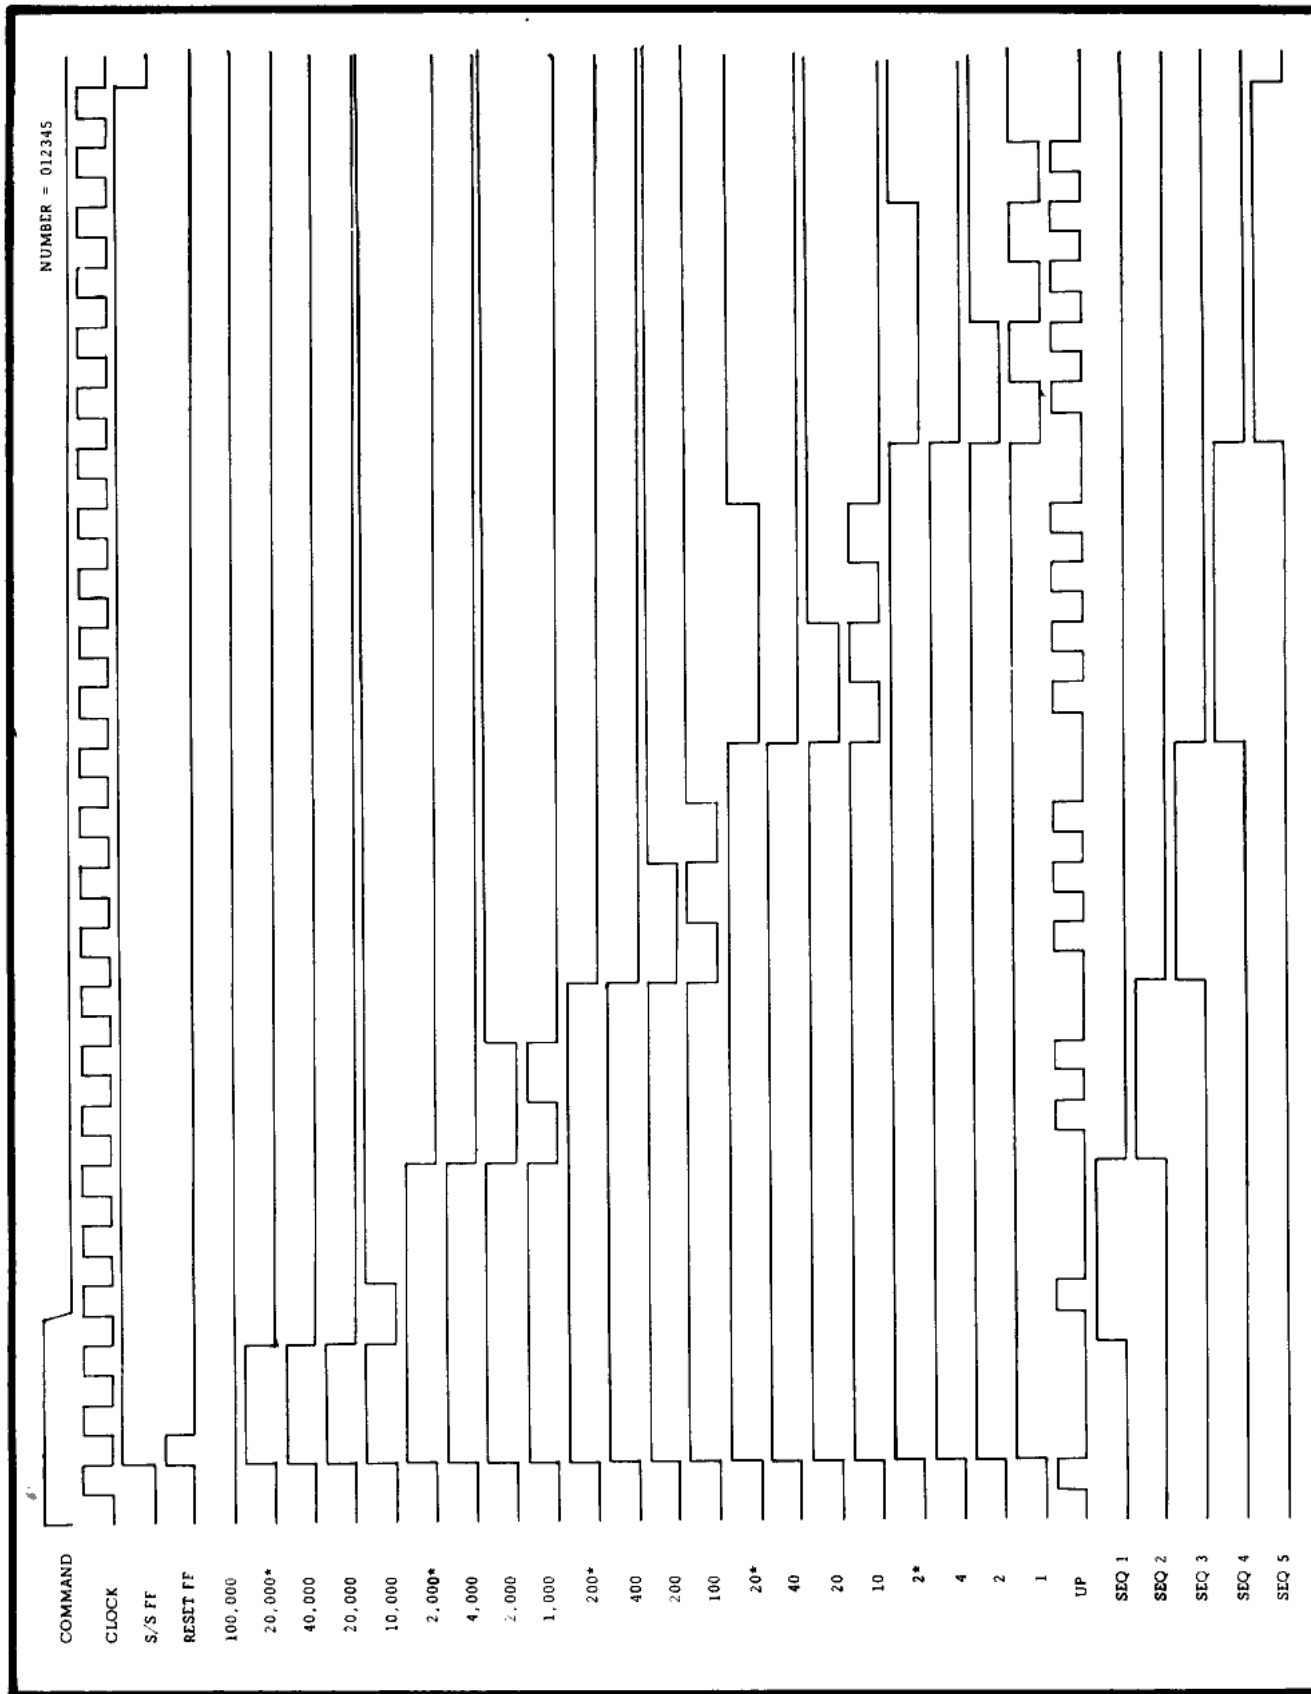
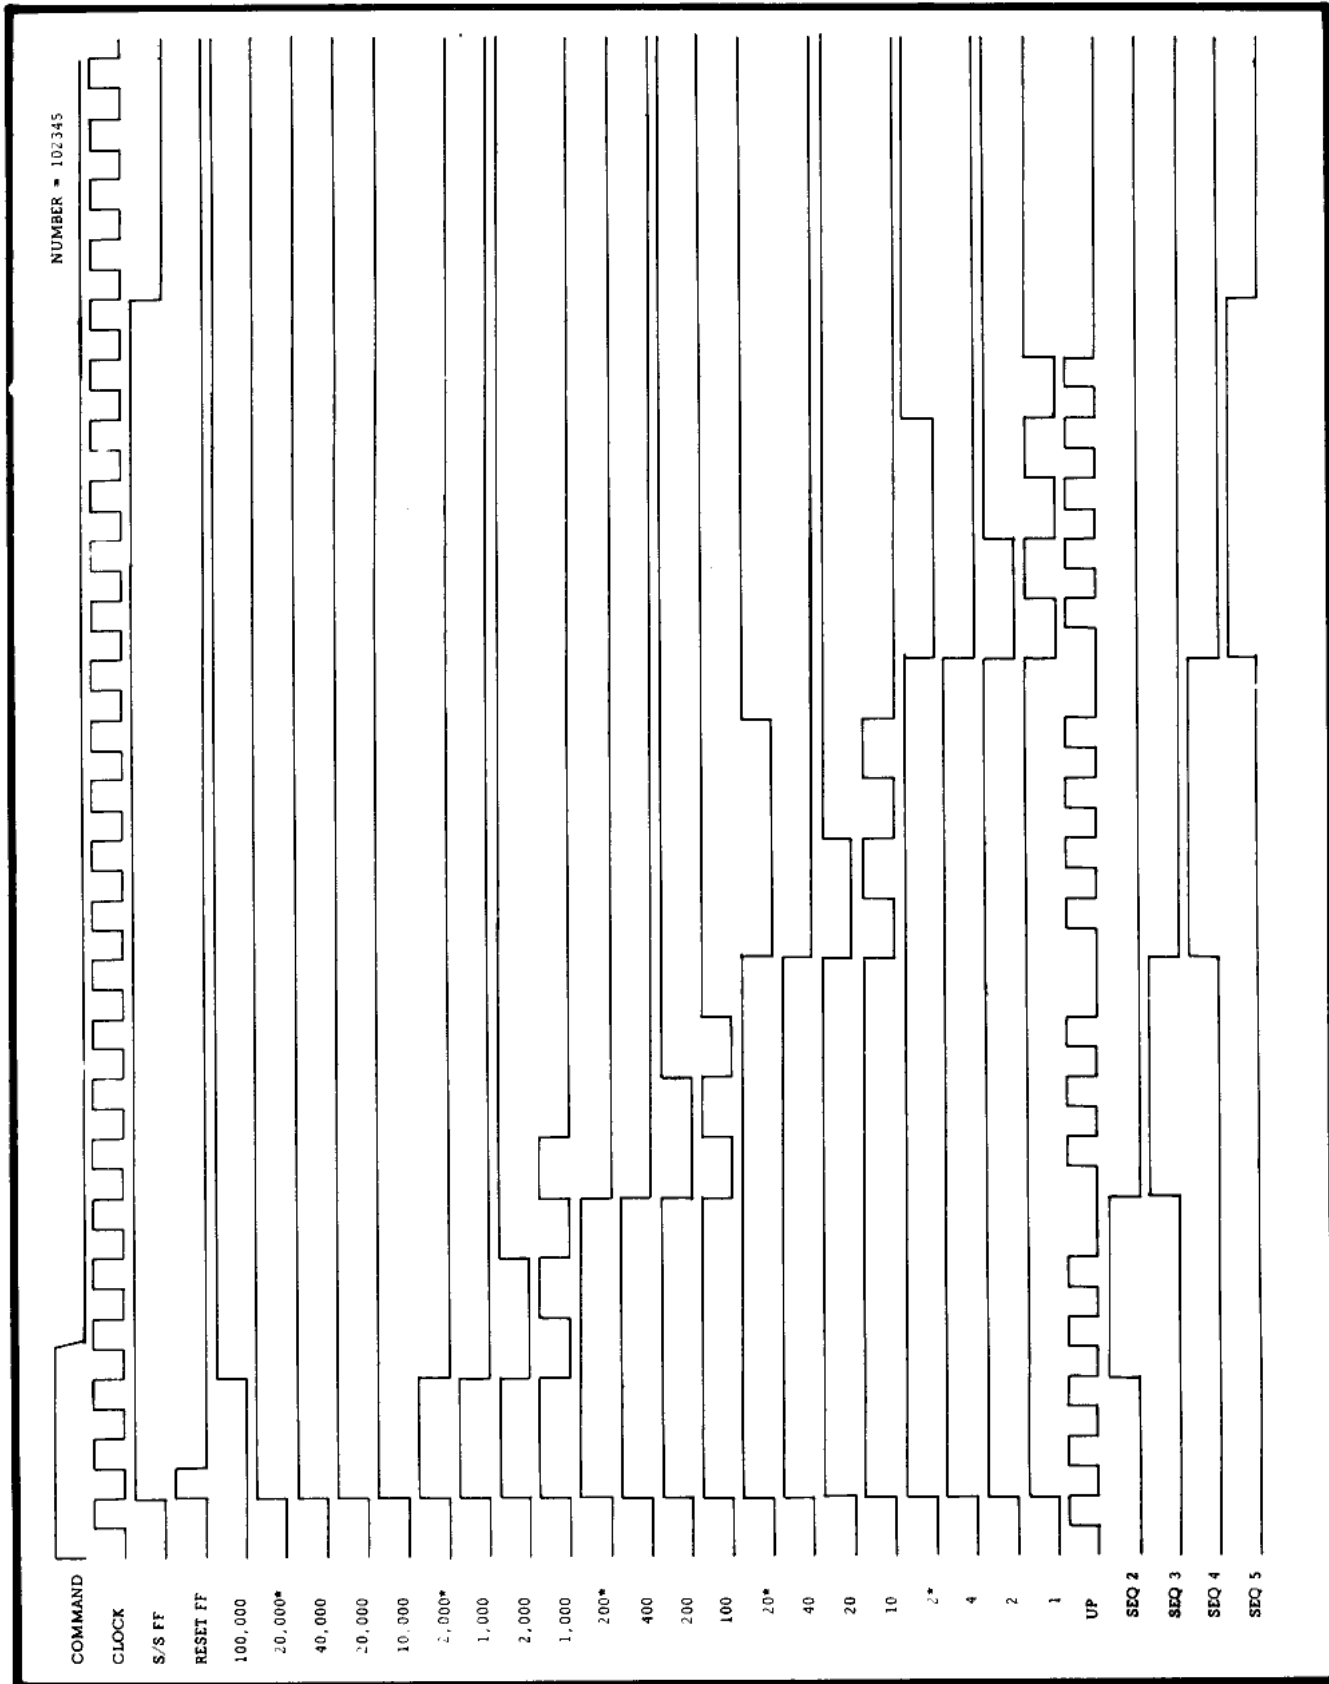

Figure 4.7. Model 5500 Timing (Without Overage)
Figure 4.8. Model 5500 Timing (With Overrange)
4.60. In S1, the 10K Decade is "dropped" (each flip-flop "off"). The Decades are now set to 09999. If the resulting DAC current is less than the input current, the Null Detector causes the generation of UP at the Trigger flip-flop. The 10K Decade now counts up on each clock pulse until DAC current becomes equal to or greater than the input current. This condition is indicated by an UP from the Null Detector. The Sequencer then advances to S2 and the 1000 Decade is set to zero. If DAC current is less than the input current, the 1000 Decade is counted up in the same manner as the 10K Decade. This is repeated for each succeeding Decade. At the end of the S5, during which the 1 Decade is counted up, the Start/Stop flip-flop is turned off. At this time, the state of the Decades represents the digital value of the input signal and the conversion is complete. This operation is illustrated in the timing diagram of Figure 4.7. In the illustration the input is 012345. Figure 4.8 shows the timing with over-range.